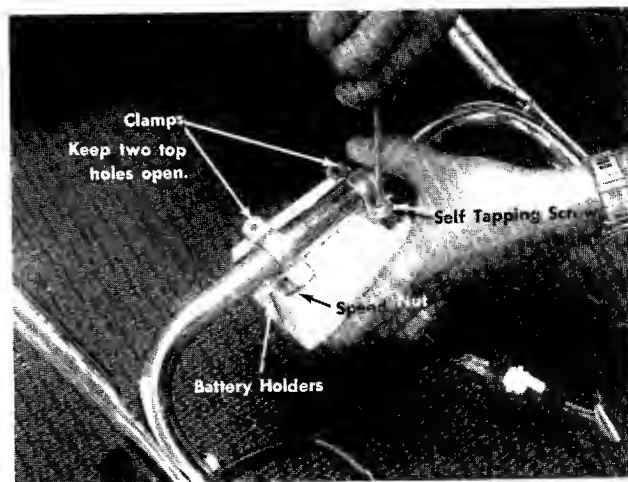

FIGURE 5. ASSEMBLY OF BATTERY PACK TO HANDLE
6. Place the battery pack with battery holders in the center of the lower handle. See figure 5.
7. Secure battery pack in position with two clamps and two self tapping screws. See figure 5. NOTE: Just start two screws on bottom of clamps. Do not tighten.